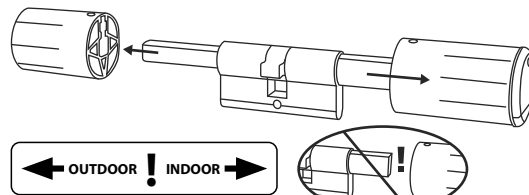

Fig. 3
- 3 Pull off the knob on the outer side completely and pull the knob on the inner side as far back as possible (Fig. 3).